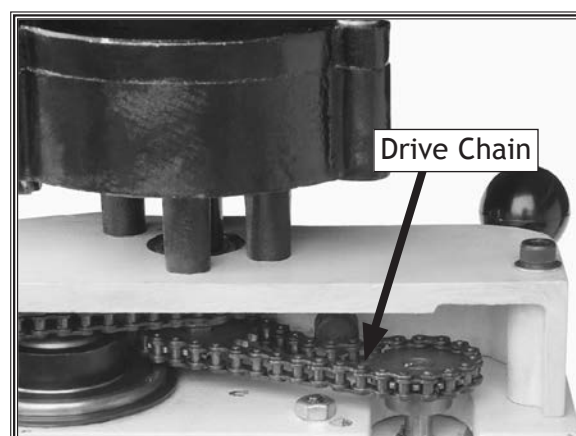

Figure 52. Drive chain assembly.
5. Place the nozzle under the chain housing, vacuum out all dust, then brush a coat of light machine oil or motor oil on the drive chains (see **Figure 52**).